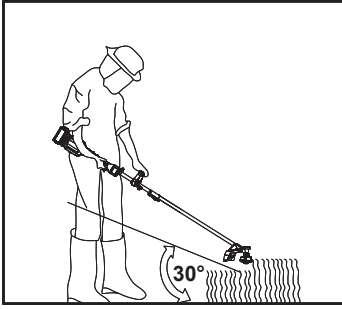

**Fig. 32**
5. Never hold the cutting head higher than your hip (Fig. 32), the higher you hold the cutting head will increase the risk of objects being thrown.